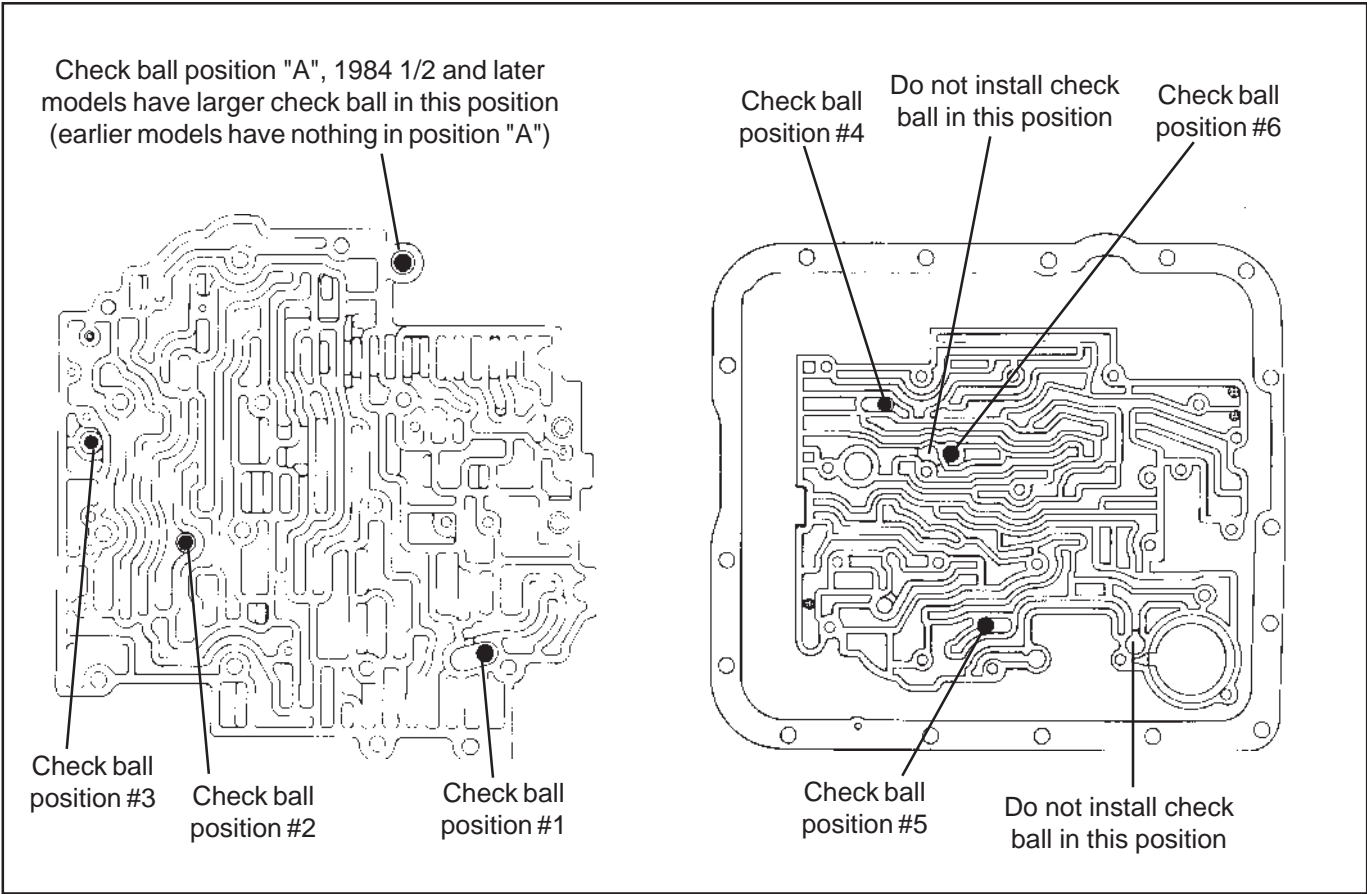
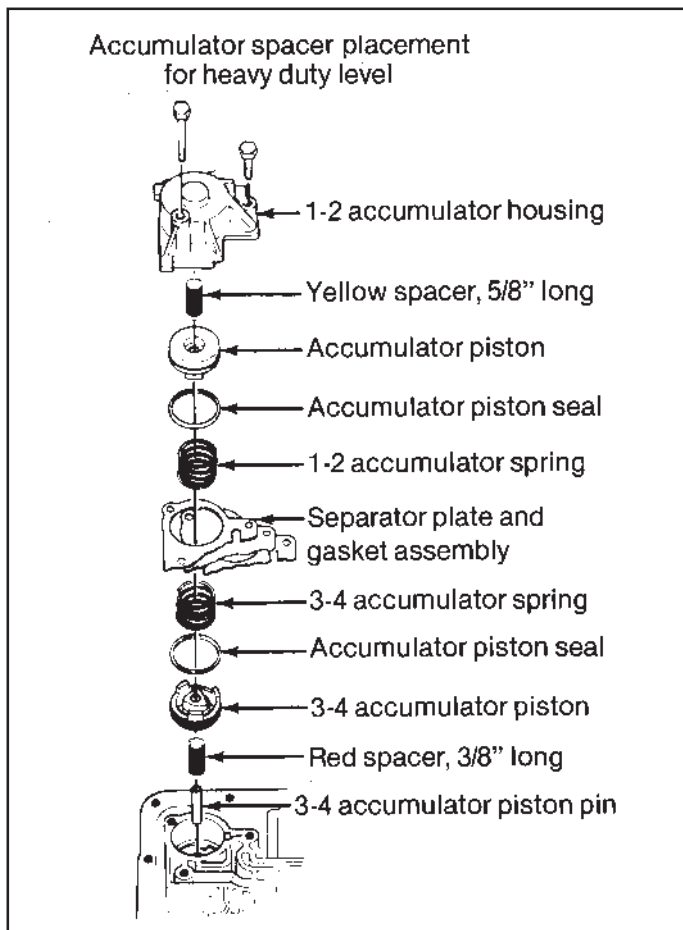

Figure 8 - Transmission without auxiliary valve body (Before mid-1987)
Figure 10
STEP 5. Beginning mid 1987 model year, TH-700's have an auxiliary valve body located where earlier models have a cover plate (See Fig. 2.) Remove the cover plate or auxiliary valve body. Be careful not to drop the check ball located in the auxiliary valve body (See Fig. 8.) Remove the 1-2 accumulator housing while holding the separator plate up to the case. Then slowly lower the separator plate and retrieve the check balls located above the plate. Make note of the **color** and **location** of the 1-2 and 2-3 accumulator springs for correct reassembly (See Fig. 10.) Remove all old gasket material from
STEP 13. Heavy Duty Only; Place the 3-4 accumulator pin in the case. Over the pin place the **RED** (3/8") spacer sleeve, accumulator piston and spring (spring is installed at step 18.) Use a dab of grease or petroleum jelly to hold components in place (See Fig. 10) Proceed to step 15.
STEP 15. Heavy Duty Only; Remove the spring and piston from the 1-2 accumulator housing (See Fig. 10.) Install over the pin the **YELLOW** spacer, piston (notice orientation) and spring. Proceed to step 17.